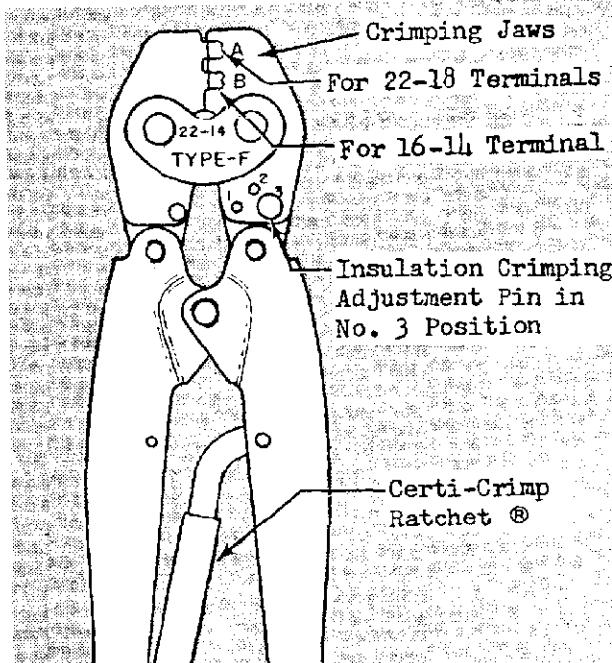

FIG. 1
1. This Tool, see Figure 1, are used to crimp A-MP 22-18 and 16-14 Series 250 Faston Terminals. To open Crimping Jaws, squeeze Handles until Certi-Crimp Ratchet, see Figure 1, is released. Handles will open automatically. Note that once Ratchet is engaged, Handles cannot be opened.
- (a) The Insulation Crimping Jaws, see Figure 1, have 3 Adjustments.